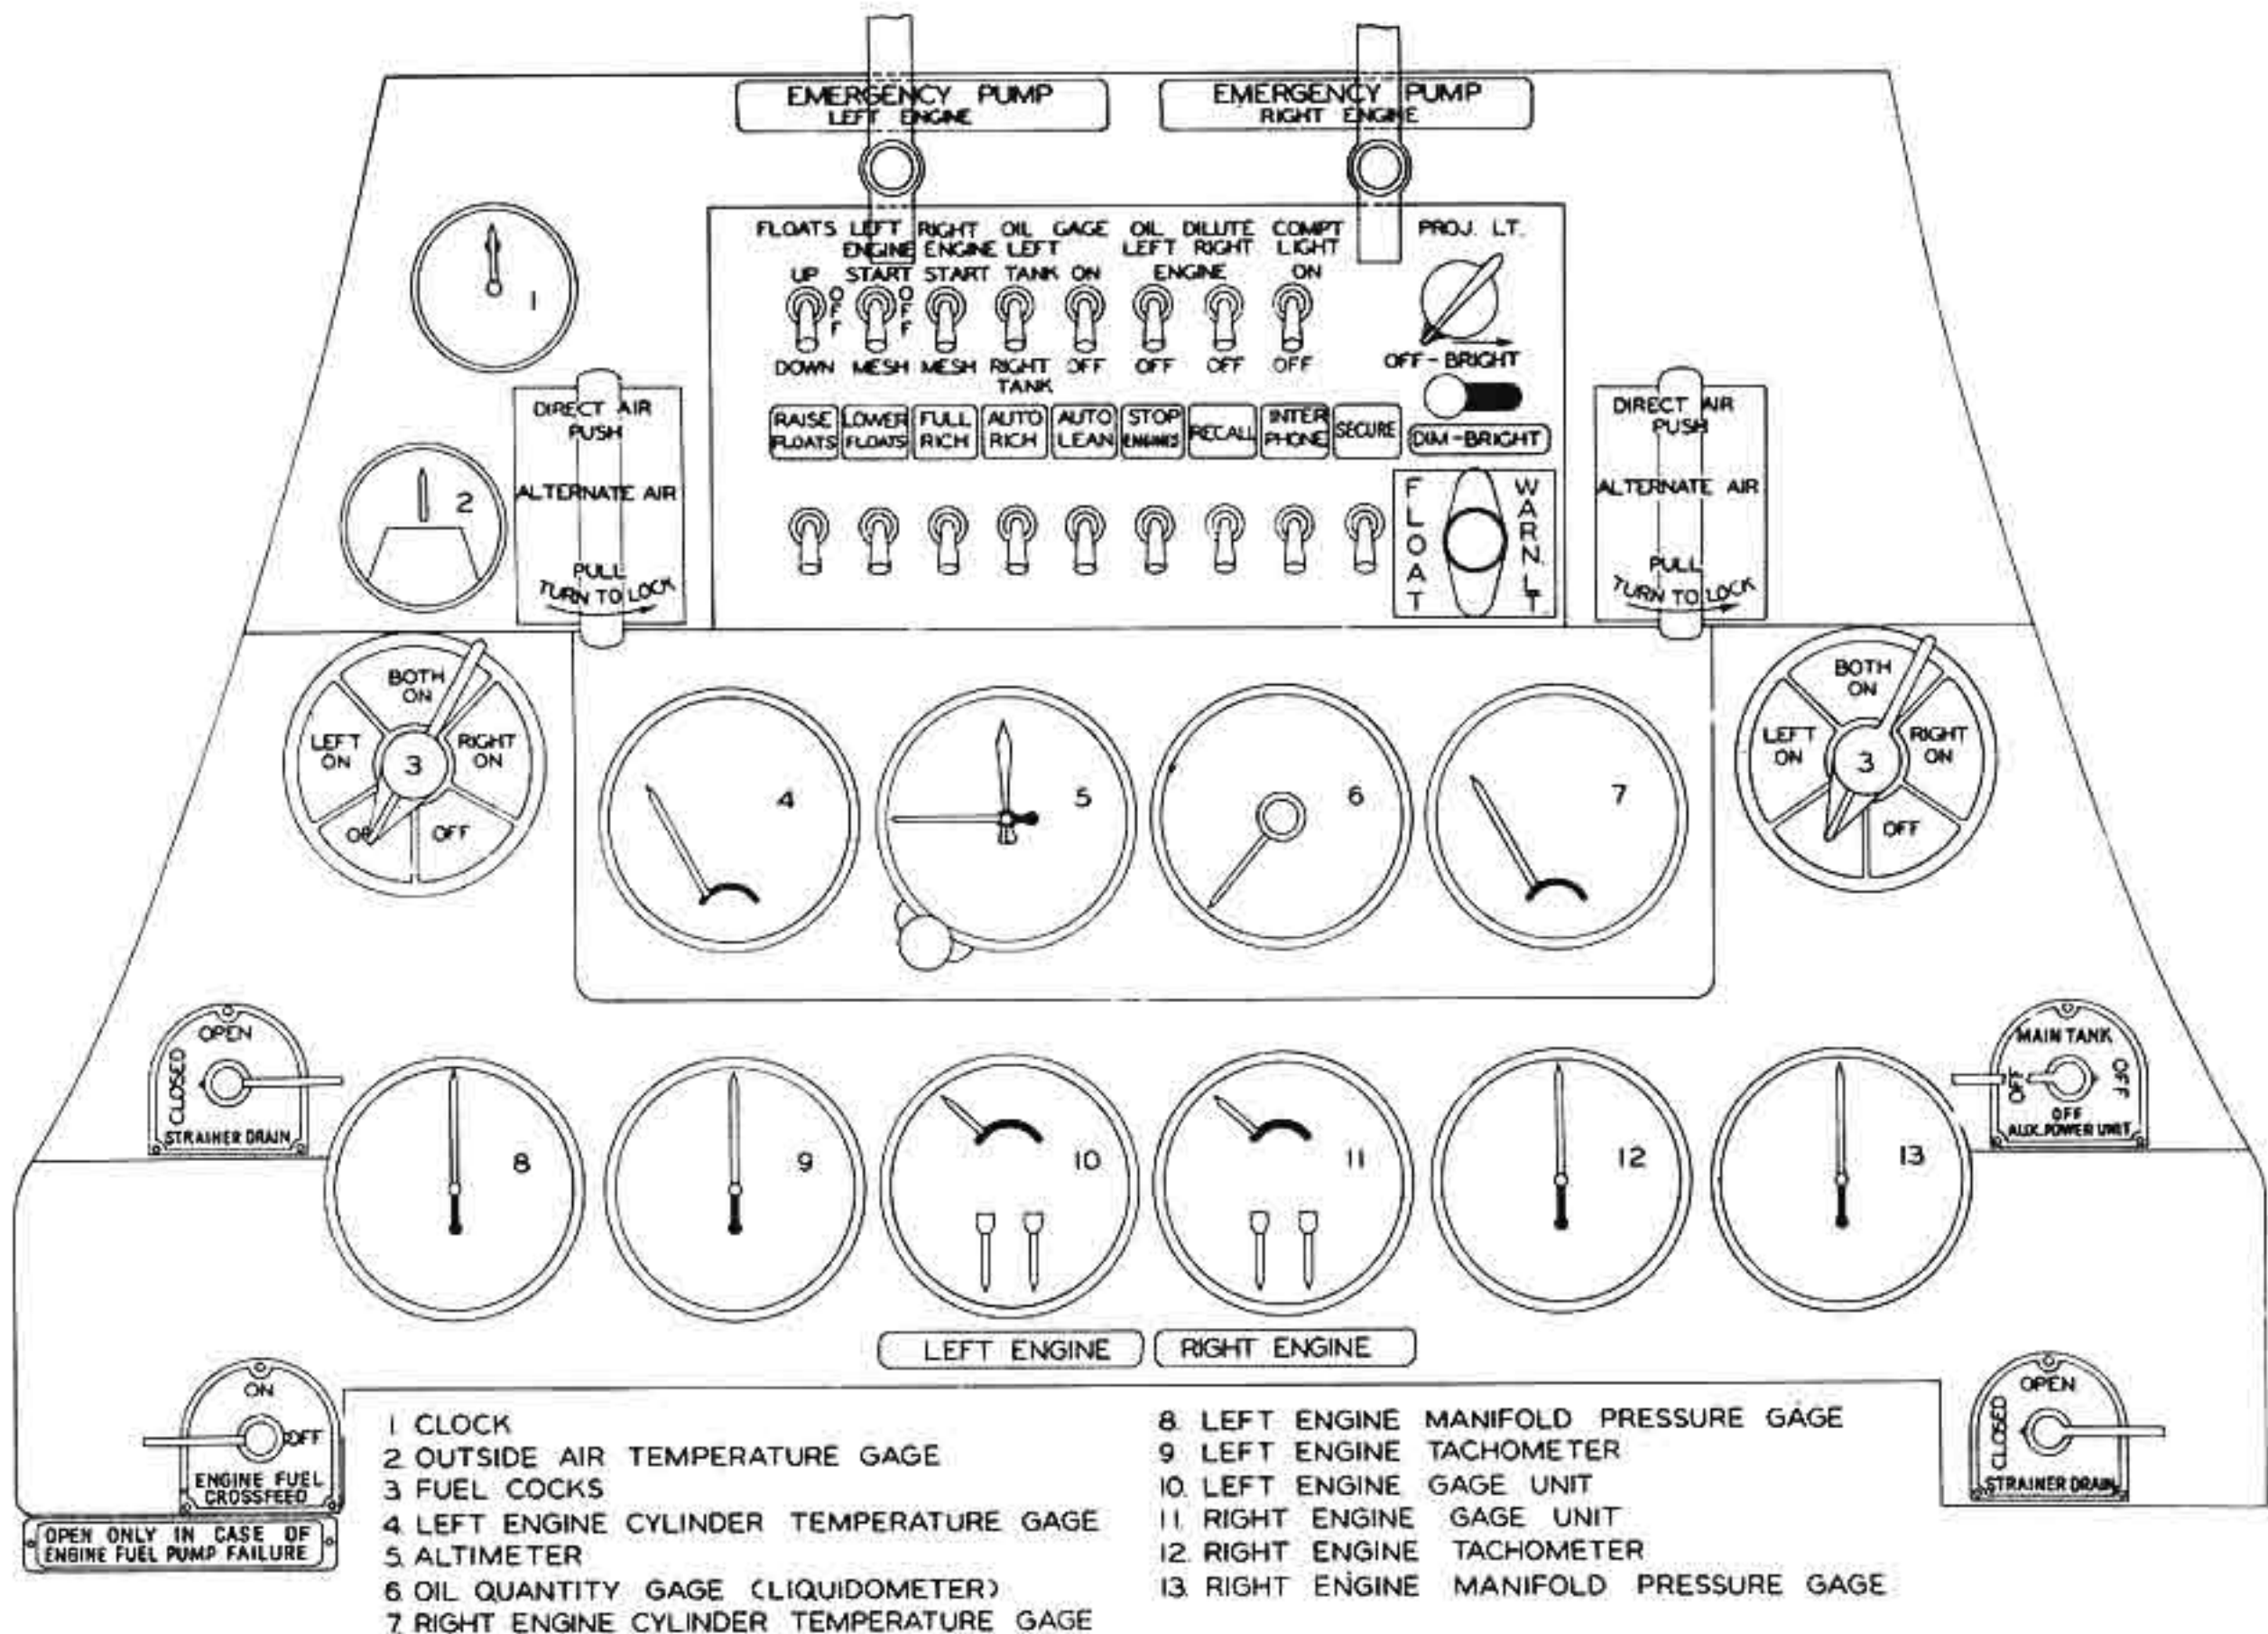

Figure 5—Engineer's Instrument Panel
(See figures 5 and 20.)—In addition to the interphone system, a system of signal lights is provided to enable the pilot to transmit orders to the engineer concerning operation of certain controls not available to the pilot. The system consists of duplicate sets of nine lights operated by individual single pole, single throw toggle switches, on the pilot's control yoke and the engineer's instrument panel. These lights are behind small ground-glass windows and the windows are lettered as follows; "RAISE FLOATS," "LOWER FLOATS," "FULL RICH," "AUTO RICH," "AUTO LEAN," "STOP ENGINES," "RECALL," "INTERPHONE," and "SECURE." The pilot may signal the engineer to perform any of the above operations by switching the proper light on. The engineer may acknowledge the order by switching the light off. The light marked "INTERPHONE" on either panel indicates that either pilot or engineer desires to talk to the other on the interphone system.
(3) ENGINE, FUEL AND OIL SYSTEM INSTRUMENTS. (See figure 5.)—Engineer's engine instruments consist of two manifold pressure gages, two engine cylinder temperature gages and two tachometers. Oil system instruments consist of an oil quantity gage (liquidometer) and two oil temperature and pressure gages, incorporated as parts of the engine gage units. Fuel system instruments consist of fuel pressure gages incorporated as parts of the engine gage units; fuel flowmeters; quantity sight gages; and an inclinometer and tilt charts to be used in conjunction with the sight gages.
(See figures 5 and 17.)